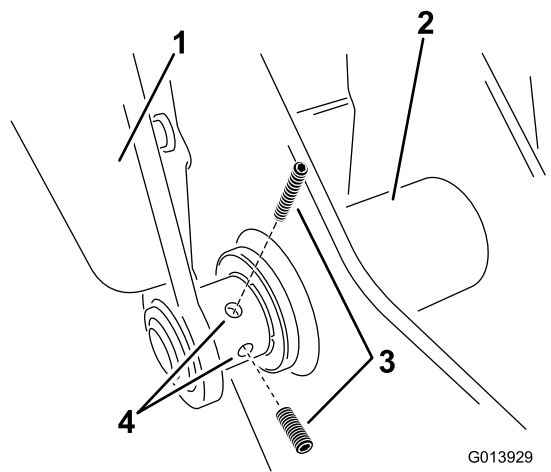

Figure 12
- Install a set screw to the left arm at the lower hinge point (Figure 12). Do not tighten at this time to allow for adjustment of the cradle system.